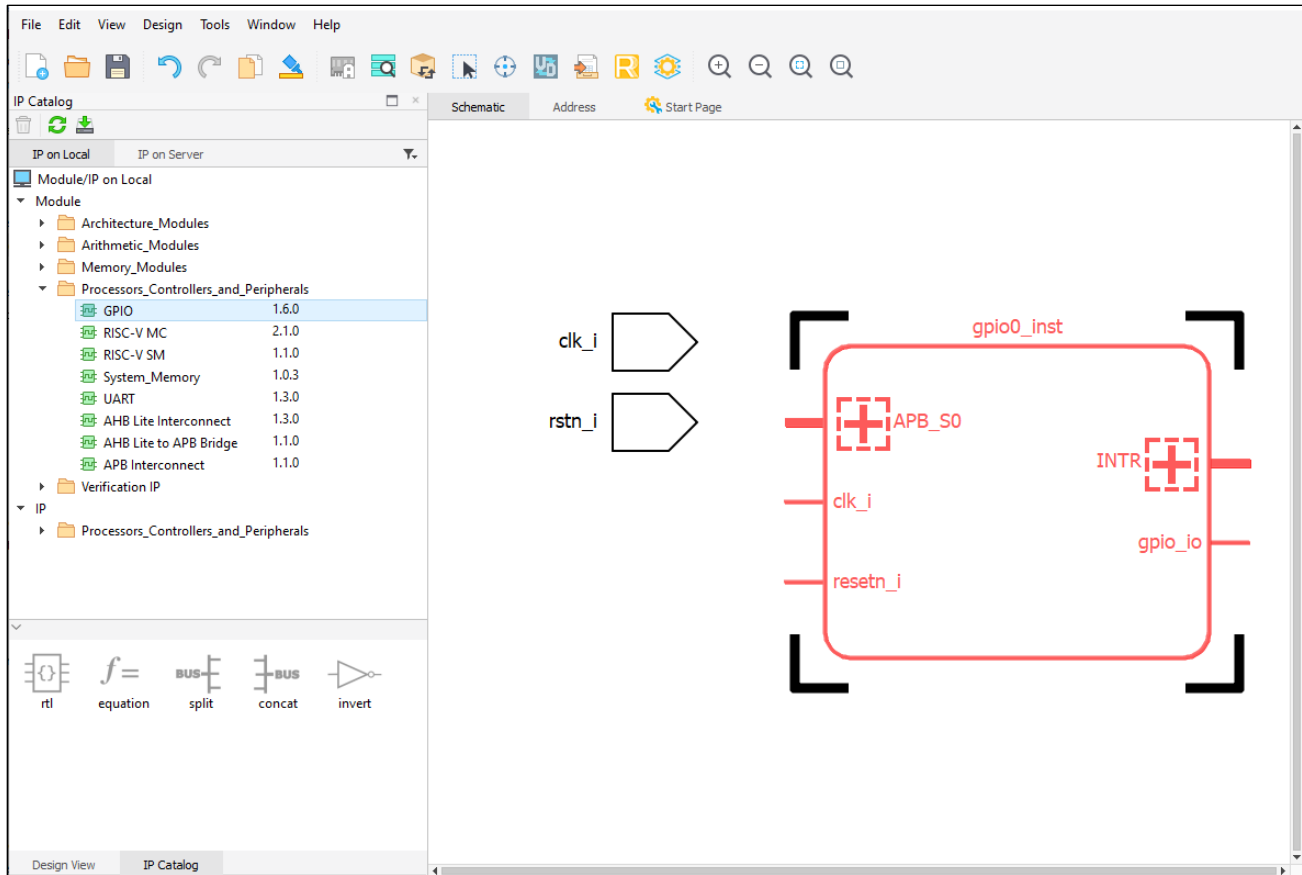

Figure 2.40. Select Object
- Click on the object in the Schematic view. The selected object turns to red (Figure 2.40).